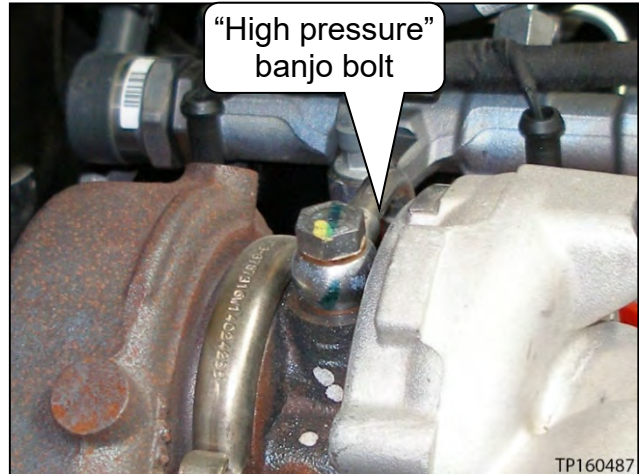
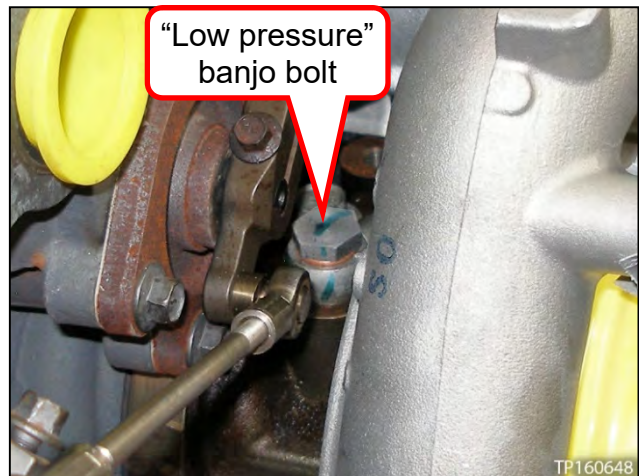

Figure 50
Figure 51
36. Remove the banjo bolts for the high pressure and low pressure turbochargers (see Figure 50 and Figure 51).